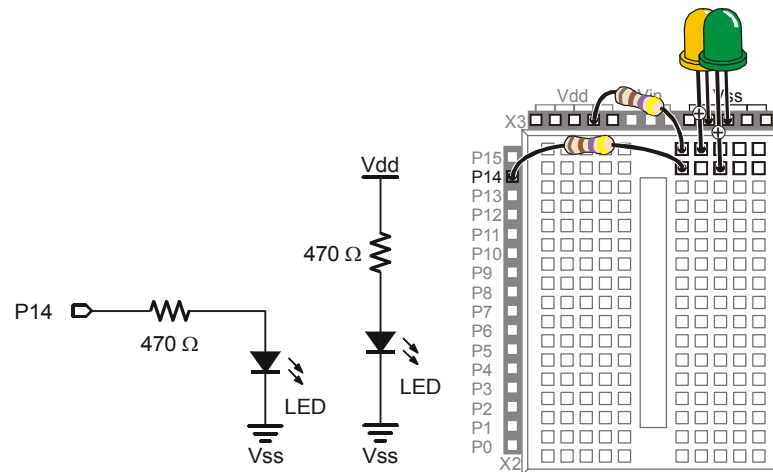

Figure 2-14
- √ Construct the second LED circuit as shown in Figure 2-14.